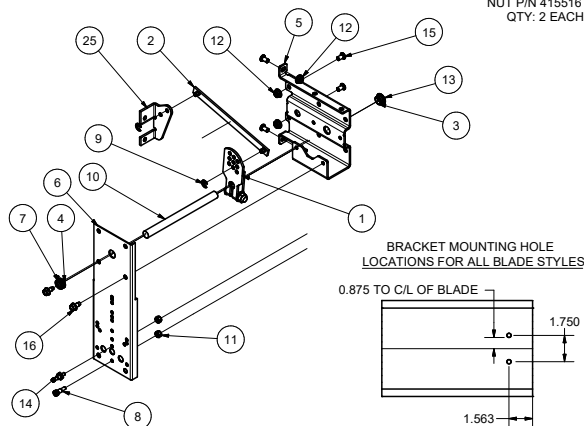

Figure 1
2. Drill (2) 0.203 inch holes in the first blade (when one or two blade damper) or third blade (more than a two blade damper) at a location as shown above for the blade type you have (see **Figure 1**).
4. Snap the bearing (item # 12) into the actuator bracket (item # 1). Install (2) 1/4 -20 x 1/2 studs (item #15) and nuts (item #14) through holes in damper frame and attach the